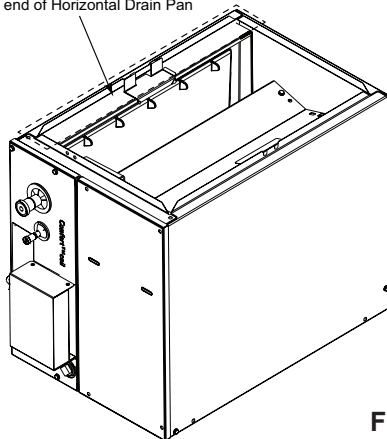

Figure 9
**To prevent damage to pan, ensure Heat Shield is assembled to Horizontal Drain Pan. See Figure 9.**